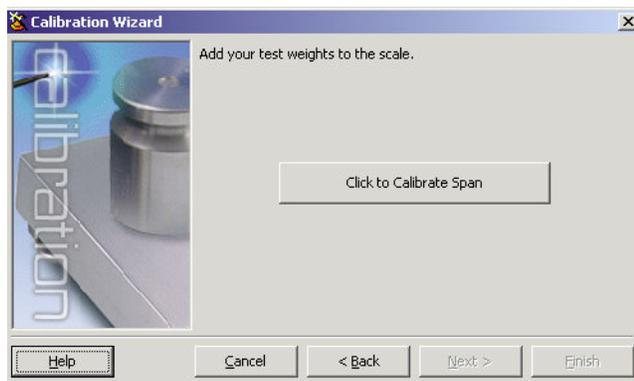

Figure 4-7. *iRev Span Calibration Display*
- Apply the test weights to the scale. Press the *Calibrate Span* button to perform the span calibration (see Figure 4-7). A message box appears when the process is complete.